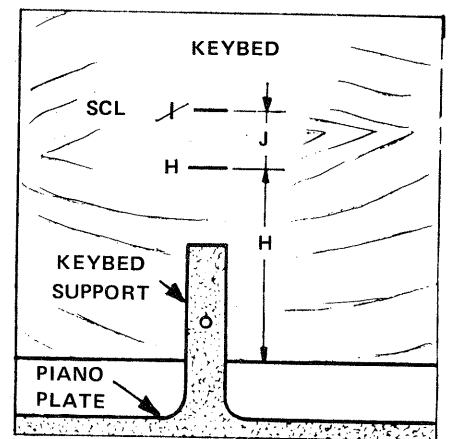

FIGURE 1-44 Measure dimension H, mark and label the Keybed as shown.
1. Refer to the measurement on Line H under this Step on the Check List. Along side each Keybed Support, measure out from the REAR of the Keybed a distance equal to the measurement on line H, mark the Keybed, and label the mark "H" as shown in FIGURE 1-44.
2. Measure between the marks labelled H and I on the Keybed as shown in FIGURE 1-44 (dimension J). If the measurement is 1/2" or LESS, cross out the label I and relabel the marks "SCL", then proceed to STEP 1-42. If the measurement EXCEEDS 1/2", proceed to Point 3 below.